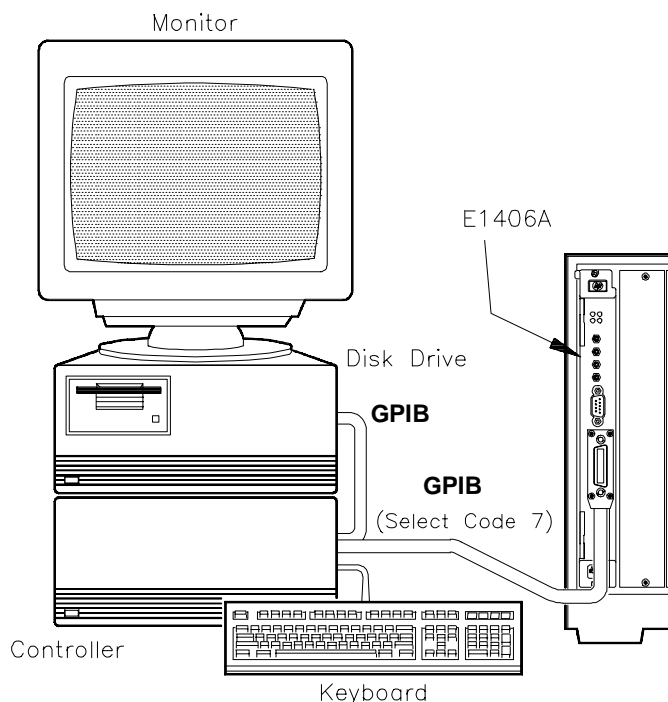

Figure 2-10. Test F-3: Hierarchy Info Connections
- Connect computer to command module (see Figure 2-10)